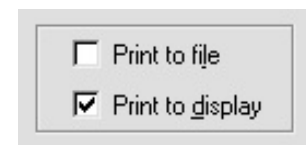

Figure 52. Checkboxes.
- **Checkboxes** (Fig. 52) are another common feature, allowing one or more of the options to be selected at the same time.